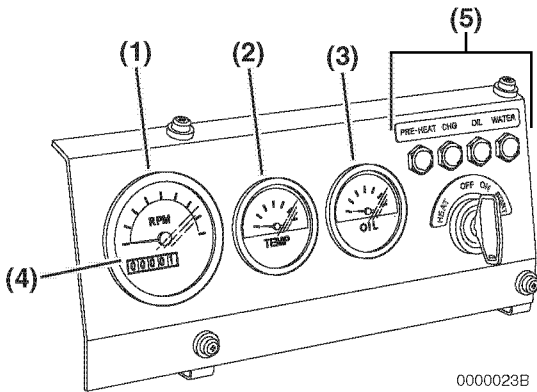
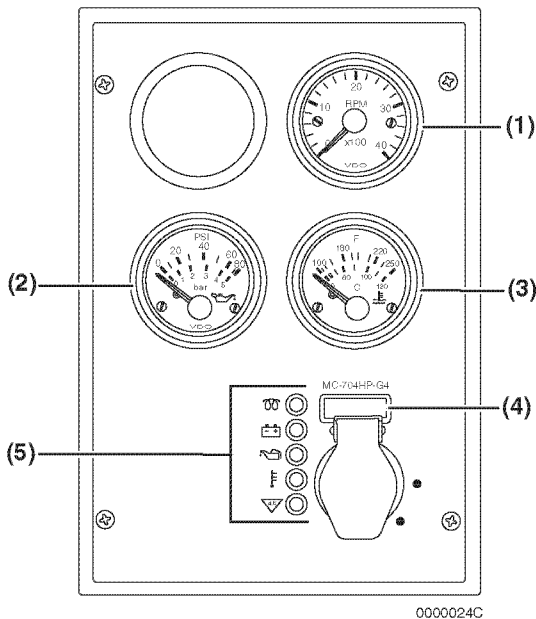

Figure 4
Figure 5
1. While the engine is running, check the gauges for normal indications. The gauges shown in **Figure 5** and **Figure 4** are provided for illustrative purposes only.
- **Tachometer (Figure 5, (1)) or (Figure 4, (1))** - Make sure the engine speed is within normal limits. See *Engine Speed Specifications on page 128*.
- **Engine Oil Pressure (Figure 5, (2)) or (Figure 4, (3))** - Make sure the engine oil pressure is within normal limits. See *Principal Engine Specifications on page 129*.
- **Engine Coolant Temperature (Figure 5, (3)) or (Figure 4, (2))** - Make sure the engine coolant temperature is within normal limits.
- **Hour Meter** - The hour meter display (**Figure 5, (4)) or (Figure 4, (4))** shows the total number of hours the engine has run. This is useful for planning periodic maintenance operations. See *Periodic Maintenance Schedule on page 85*.
2. After the engine has reached operating temperature, all of the indicators (**Figure 5, (5)) or (Figure 4, (5))** should be off. If any of the indicators are on, shut down the engine and have the necessary repairs performed.